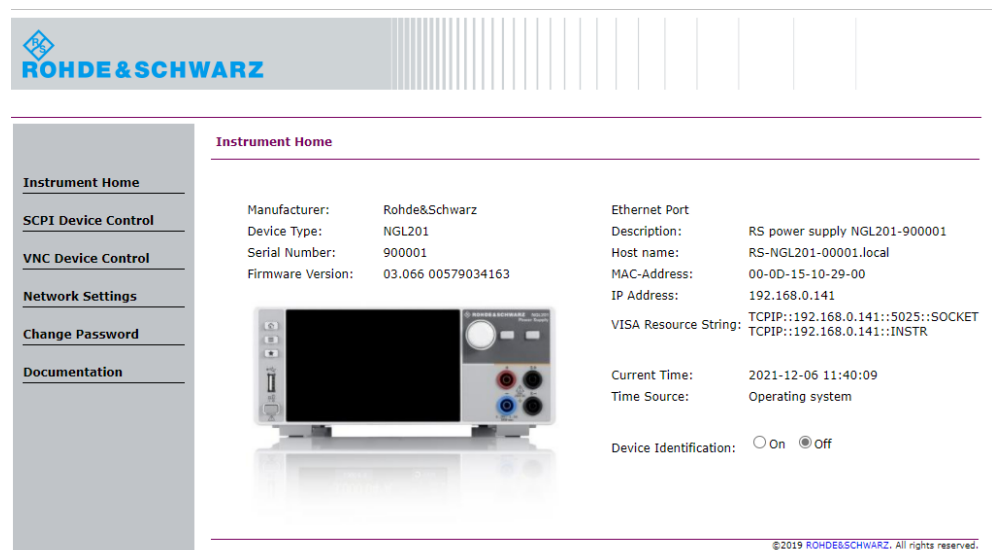

Figure 6-60: Instrument home webpage of a power supply model
- Alternatively, connect to the instrument webpage using the IP address or hostname on the web browser URL bar. If connected successfully, the "Instrument Home" webpage is displayed. See Figure 6-60.
- "Instrument Home": Displays instrument information (e.g. model, serial number, firmware version). See Figure 6-60.